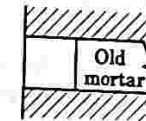

Fig. 5.20.2. Flush pointing.
- i. This type of pointing is shown in Fig. 5.20.2 and it is formed by removing the excess mortar from the joint and it is made flush with the face.